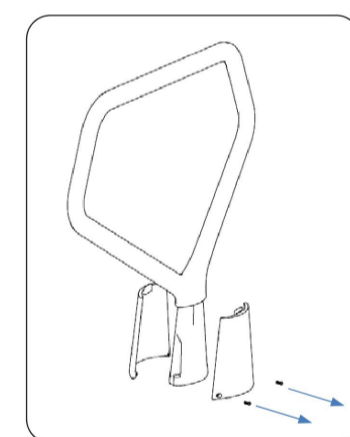

Fig. 2 - remove cover plates
8. Install cover plate (A) by inserting tab end into base casting at the opposite end of the set screw location (see Figure 2).